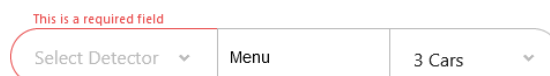

Fig. 1.15
**Required Fields:** Certain fields are mandatory and cannot be skipped. The system will alert you if a field cannot be left blank (see Fig. 1.15). In this example, the field needs to be populated with an option from the drop-down list before proceeding.